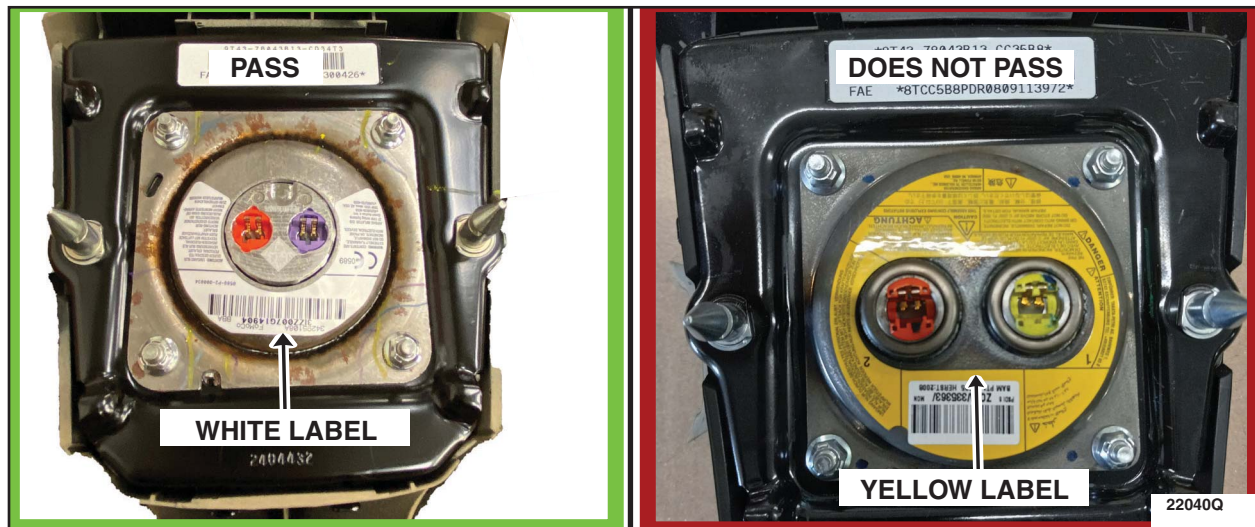

FIGURE 3
3. Inspect the label on the Driver Airbag inflator as shown in Figure 3. Is the label white in color?